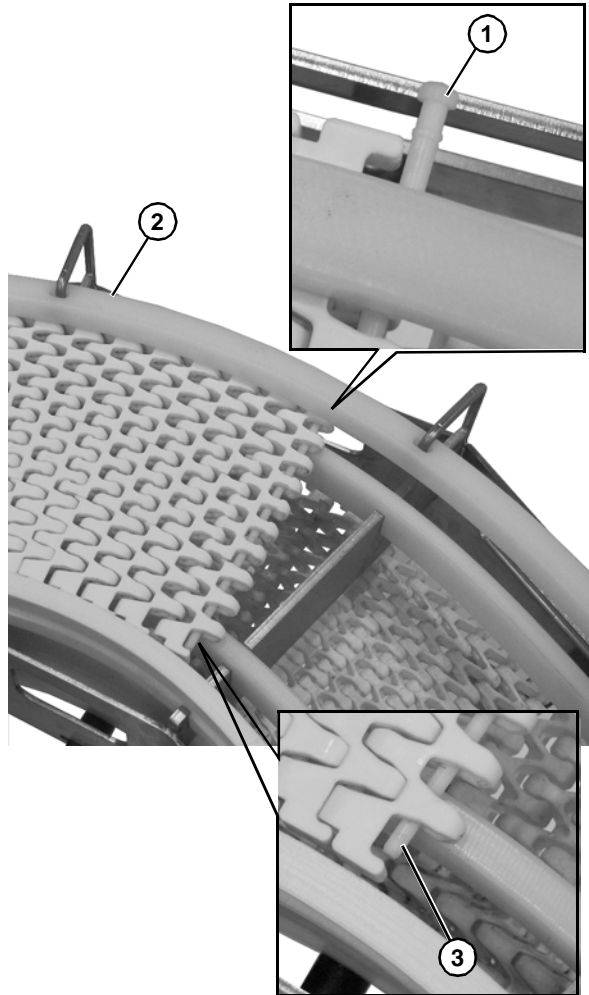

Figure 38
2. Orient the belt direction such that the pin heads (Figure 38, item 1) are on the outside of the belt radius (Figure 38, item 2). The straight portion on the pin (Figure 38, item 3) will be on the inside radius.